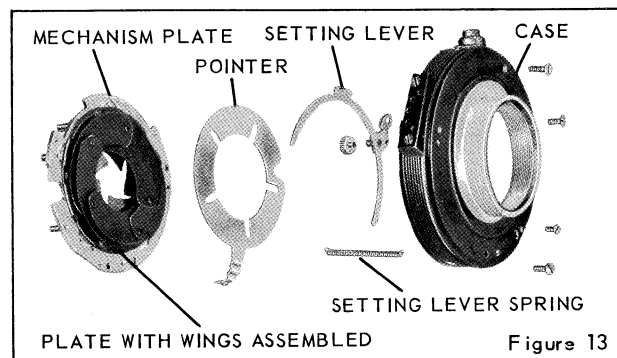

Figure 13
12. Trip the shutter and at the same time retard its opening action by placing one finger against the shutter SETTING LEVER, figure 13. Observe whether the BLADE CONTROLLER CONTACT STUD, figure 16, makes slight contact with the contact spring just before the blades are fully open. If the stud does not touch the spring, bend the end of the spring toward the stud.
11. MECHANISM PLATE, figure 13.
9. The shutter **CASE**, figure 13, diaphragm **POINTER** and setting lever should be thoroughly cleaned. Apply a thin film of grease (Texaco Unitemp-RCX169 Grease) to the recess in the case occupied by the setting lever. Then wipe this area lightly with a clean cloth.